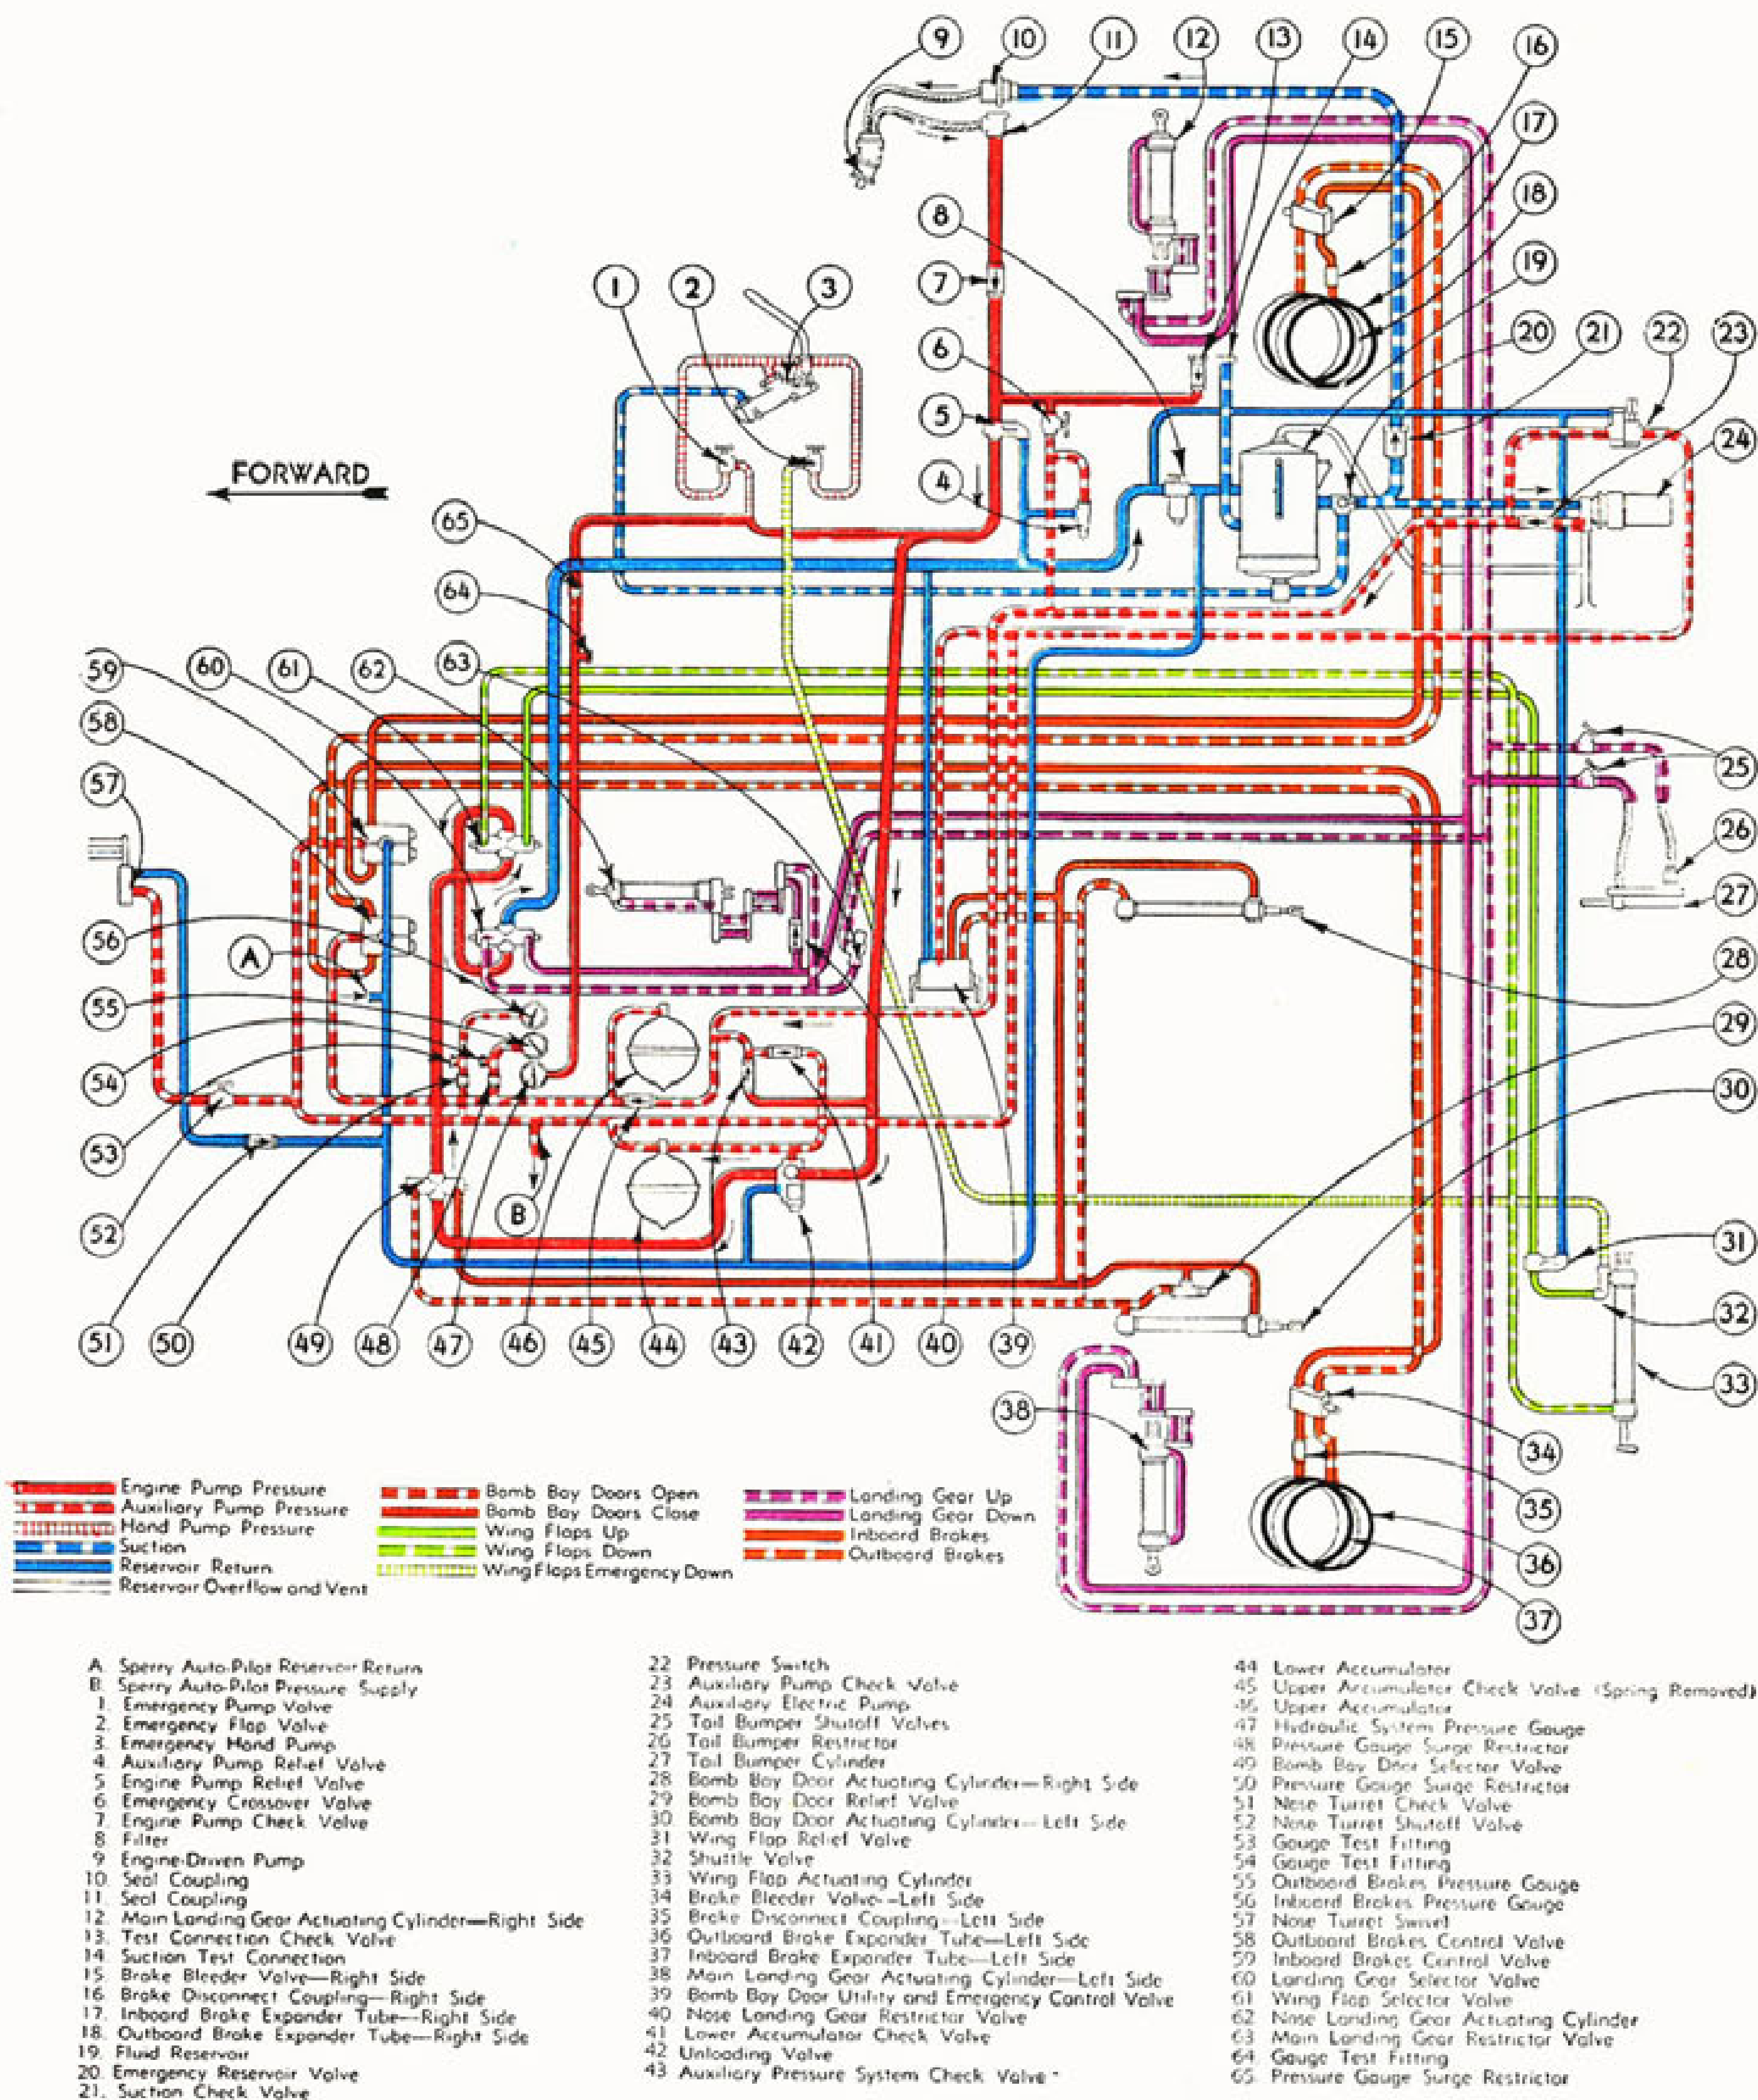

Figure 20—PB4Y-2 Hydraulic System
Fluid under pressure, for operation of the PB4Y-2 hydraulic system, illustrated schematically in figure 20, is supplied through an *Open Center System* and an *Accumulator System*.
Accumulators (44) and (46), Figure 20, can be charged with hydraulic fluid under pressure, in the following ways:
(24) off), unloading valve (42) acts as an accumulator pressure regulator, diverting fluid from the open center line to both accumulators when pressure in lower accumulator (44) drops to 850 ± 50 p.s.i., and returning the full flow to the open center line when accumulator pressure rises to 1000 ± 50 p.s.i.
2. If the open center line back pressure, which builds up when the bomb bay doors, the wing flaps, or the landing gear are operated through an open center selector valve, exceeds the pressure in either or both accumulators, accumulator pressure will rise with open center line pressure, independent of unloading valve (42). If open center line pressure exceeds the fluid pressure in lower accumulator (44), fluid flows from the open center line through check valves (43) and (41) into the lower accumulator until lower accumulator pressure equals open center line pressure; likewise, fluid flows from open center line through check valves (43) and (45) into upper accumulator (46), when open center line pressure exceeds upper accumulator pressure.
3. When auxiliary electric pump (24), Figure 20, is turned on, and emergency crossover valve (6) remains closed, the auxiliary electric pump supplements the engine-driven pump (9) by taking over the charging of the accumulators, maintaining accumulator pressure between the limits 970 ± 50 and 1140^{+30}_{-10} p.s.i., while the engine-driven pump supplies fluid to the open center selector valves only. This is made possible by the relative pressure adjustments of unloading valve (42) and pressure switch (22).
A seven-piston pump (9), Figure 20, mounted on the accessory drive section of No. 3 engine, pro-
The auxiliary electric pump (24), Figure 20, has a normal load of 95 to 98 amperes. It is turned on or off by two switches in series. One switch, located at station 4.1, is manually operated; the other is an automatic pressure regulating switch (20), Figure 20.
1. Accumulator charging function— The auxiliary electric pump should be turned on before take-off and before landing, and off during flight. When the pump is turned on, while the emergency crossover valve (6) remains closed, the auxiliary electric pump supplements the engine-driven pump by taking over the charging of the accumulators, maintaining accumulator pressure between the limits 970 ± 50 and 1140^{+30}_{-10} p.s.i., while the engine-driven pump supplies fluid to the open center selector valves only. This is made possible by the relative pressure adjustments of unloading valve (42) and pressure switch (22).
2. Emergency function— In the event of failure of engine-driven pump (9), Figure 20, or of engine No. 3, on which the pump is mounted, the auxiliary electric pump can be connected to the open center pressure line by opening emergency crossover valve (6). When thus connected, the auxiliary electric pump replaces the engine-driven pump, and supplies fluid for operation of the entire hydraulic system; under these conditions pressure switch (22) remains in the on position, and unloading valve (42) controls the charging of the accumulators.
Hand pump (3), Figure 20, provides an emergency method of supplying hydraulic fluid for operation of the hydraulic system in the event of failure of both the engine-driven pump and the auxiliary electric pump.
Fluid for hand pump operation is drawn through the hand pump suction outlet at the bottom of reservoir (19), Figure 20. Two valves, (1) and (2), control the direction of fluid flow from the hand pump; normally valve (1) is wired in open position, while valve (2) is wired in closed position. Fluid flow from the hand pump is controlled in the following manner:
1. With valve (1) open and valve (2) closed, fluid flows from the hand pump through valve (1) to the open center line for operation of the entire hydraulic system.
2. With valve (1) closed and valve (2) open, fluid flows from the hand pump through valve (2) directly to wing flap actuating cylinder (32) for emergency lowering of wing flaps.
Emergency Crossover Valve (6), Figure 20, located at station 4.2, right side, *must be closed* during normal operation of the hydraulic system. However, in the event of failure of engine-driven pump (9), or of engine No. 3 on which the pump is mounted, turn on the auxiliary electric pump and *open* the emergency crossover valve to allow fluid under pressure from the auxiliary electric pump to flow into the open center pressure line.
Emergency flap valve (2), Figure 20, located on the right side of the fuselage, adjacent to the hand pump, connects the hand pump to a direct line to the shuttle valve, which is mounted on the inboard end of the wing flap cylinder, for emergency lowering of the wing flaps. Normally, the emergency flap valve is secured in the *closed* position by safety wire. The valve should be opened *only* for emergency lowering of wing flaps.
Emergency pump valve (1) Figure 20, located on the right side of the fuselage, adjacent to the hand pump, connects the hand pump to the open center pressure line for emergency operation of the entire hydraulic system. Normally, the emergency pump valve is secured in the *open* position by safety wire. The emergency pump valve should be closed *only* when the emergency flap valve has been opened for emergency lowering of wing flaps.
Emergency reservoir valve (20) Figure 20, located aft of the reservoir, directs the flow of fluid from the bottom and center reservoir suction outlets. The valve is a simple plug valve with three ports. For normal operation, the valve handle must be horizontal so that all three valve ports are open, and fluid can flow from both the center and the bottom reservoir outlets. When the valve handle is in the vertical or emergency position, only two of the valve ports are open, so that only the bottom reservoir suction outlet is open to the main suction line, while the center reservoir suction outlet is closed.
Hydraulic system pressure gauge (47), Figure 20, indicates fluid pressure in the open center pressure line. With the engine-driven pump in operation, accumulators charged, and none of the open center selector valves in operating position, the hydraulic pressure indicated on the gauge varies from 25 to 75 p.s.i. When accumulators are charging through the unloading valve, gauge (47) will indicate the same pressure as brake pressure gauges (55) and (56), i.e., up to 1000 ± 50 p.s.i. The bomb bay door, wing flap, and landing gear operating pressures are indicated on gauge (47). The highest pressure attained is the landing gear selector valve relief (or kickout) pressure, 1100^{+0}_{-50} p.s.i.
Inboard brakes pressure gauge (56), Figure 20, indicates fluid pressure in lower accumulator (44). Accumulator pressure can vary from 850 ± 50 to 1000 ± 25 p.s.i. when the accumulator is charged by the engine-driven pump through the unloading valve, or by the auxiliary electric pump through the emergency crossover valve and the unloading valve. When the emergency crossover valve is closed and the auxiliary electric pump is turned on, accumulator pressure can vary from 970 ± 50 to 1140^{+30}_{-10} p.s.i.
Outboard brakes pressure gauge (55), Figure 20, indicates fluid pressure in upper accumulator (46). Operating pressures are the same as for the lower accumulator (inboard brakes pressure gauge).
1. Bomb bay door selector valve (49), Figure 20, in bombardier's compartment.
The two ends of cylinder (30), Figure 20, are interconnected through bomb bay doors relief valve (29). Relief valve (29) discharges fluid from the *doors open* line to the *doors close* line if fluid pressure in the *doors open* line exceeds 700 p.s.i.
The bomb bay door utility and emergency valve (39) Figure 20, is located just forward of the bomb bay bulkhead at station 4.0.
1. Normal Operation—To lower and retract the wing flaps, fluid is forced through wing flap selector valve (61), Figure 20, to wing flap actuating cylinder (33) by the engine-driven pump, or by the auxiliary electric pump in case of failure of the engine pump.
2. Emergency Lowering—To lower the wing flaps, fluid is pumped by hand pump (3), Figure 20, directly to the wing flap actuating cylinder through flap emergency valve (2) and shuttle valve (32).
3. Supplementary Emergency Lowering Method—Fluid can be pumped through emergency pump valve (1), Figure 20, by the hand pump into the open center system and through wing flap selector valve (61) to raise or lower the flaps. This method is very slow if the accumulator pressure charge is low; therefore, it is not recommended as an emergency method for
Wing flap selector valve (61), Figure 20, is located forward of the pilot's control pedestal and is operated by a lever on the right side of the pedestal. When the control lever is placed in either the *flap up* position or the *flap down* position, the selector valve piston remains in position and directs fluid from the open center line to the top or the bottom of the actuating piston in the wing flap cylinder (33). Fluid which returns from the cylinder flows through selector valve (61) into the open center line, and returns to the reservoir.
In the event of failure of the open center system, the wing flaps can be lowered through operation of hand pump (3) Figure 20. Emergency lowering of wing flaps is effected as follows:
Refer to Figure 20.
The landing gear selector valve (60), Figure 20, is located forward of the pilot's control pedestal and is operated by a lever on the port side of the pedestal. When placed in either the *gear up* or *gear down* position, the selector valve remains in position and directs fluid from the hydraulic open center line to the main landing gear, nose landing gear, and tail bumper actuating cylinders. Fluid which returns from the actuating cylinders flows through the landing gear selector valve into the hydraulic open center line and returns to the fluid reservoir. When